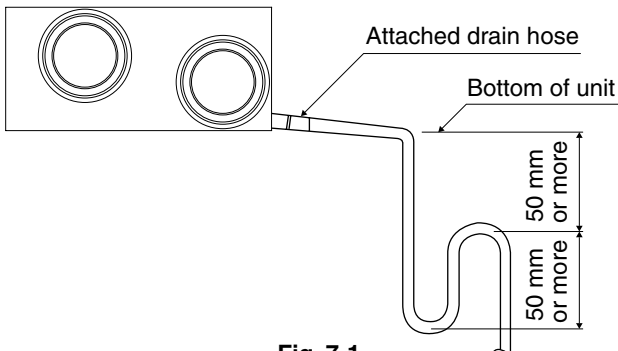

Fig. 7-1
**(1) Install the drain piping.**
- In case of the direct duct connection system, there is negative pressure inside the unit relative to atmospheric pressure when the unit is running, so be sure to provide drain trap on the drain outlet. (See Fig. 7-1)